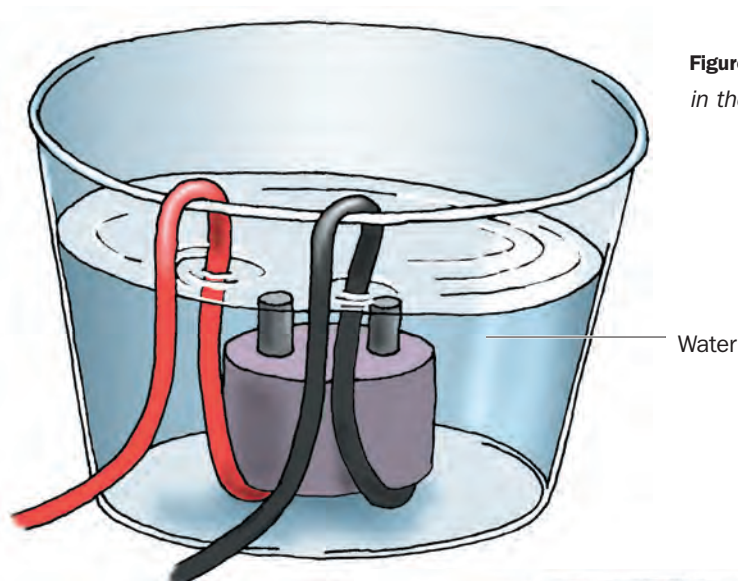

Figure 20.1 Place the electrode stand in the plastic container and add water.
4. Add water to the container so that the tips of the electrodes are covered by about 1 cm of water (see Figure 20.1).